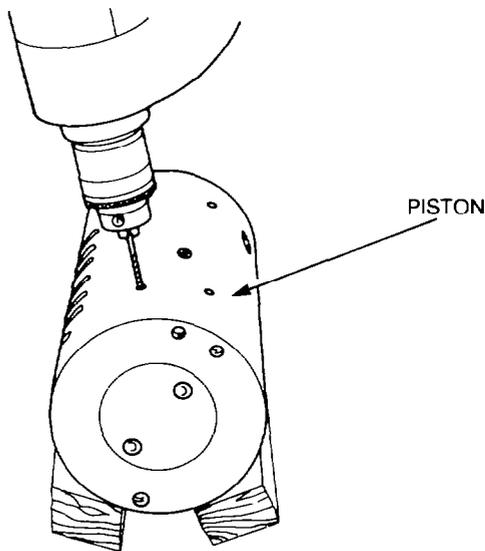

Figure 270 — Lower Piston Plug Lock Pin — Removal
- k. Remove the lower piston plug lock pin, using a 2.5 mm (3/32 in.) drill (see (Fig. 270), to drill out the pin.